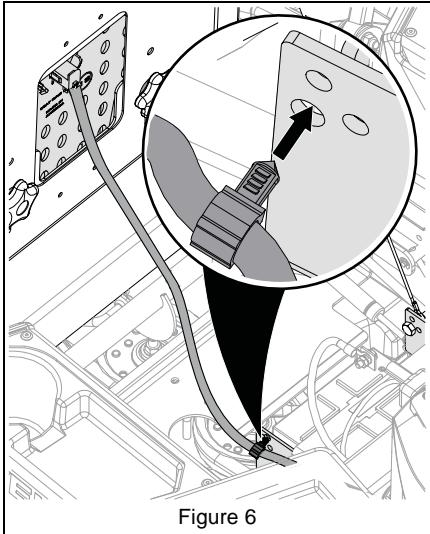

Figure 6
6. Insert cable clip into lower hole on battery tray. See Figure 6.